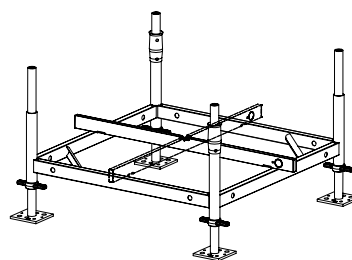

Fig. A1.02
3. Check the evenness by means of a spirit level and adjust height if necessary. (Fig. A1.02)